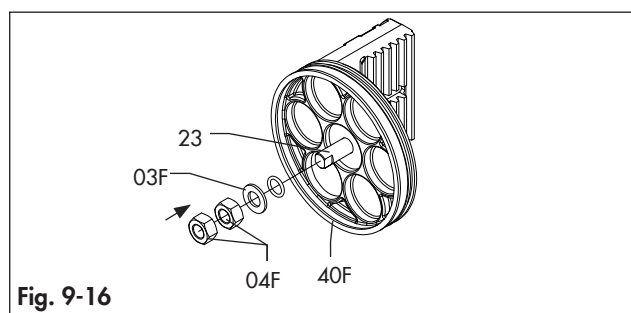

Fig. 9-16
- fasten the stop screws (221G/222G/24) into the end caps (30R/30E) as shown in Fig. 9-16.